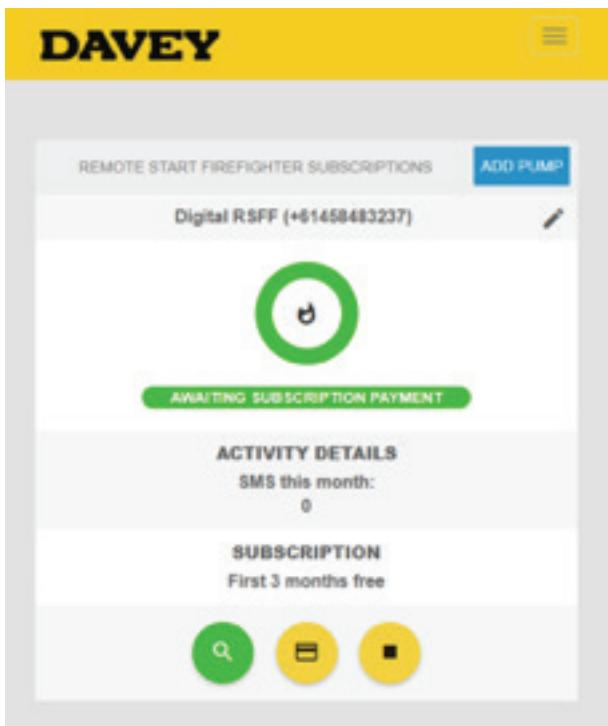

Figure 7.16
- > Upon successful registration of account and pump SIM card, you’ll see *Figure 7.16*;